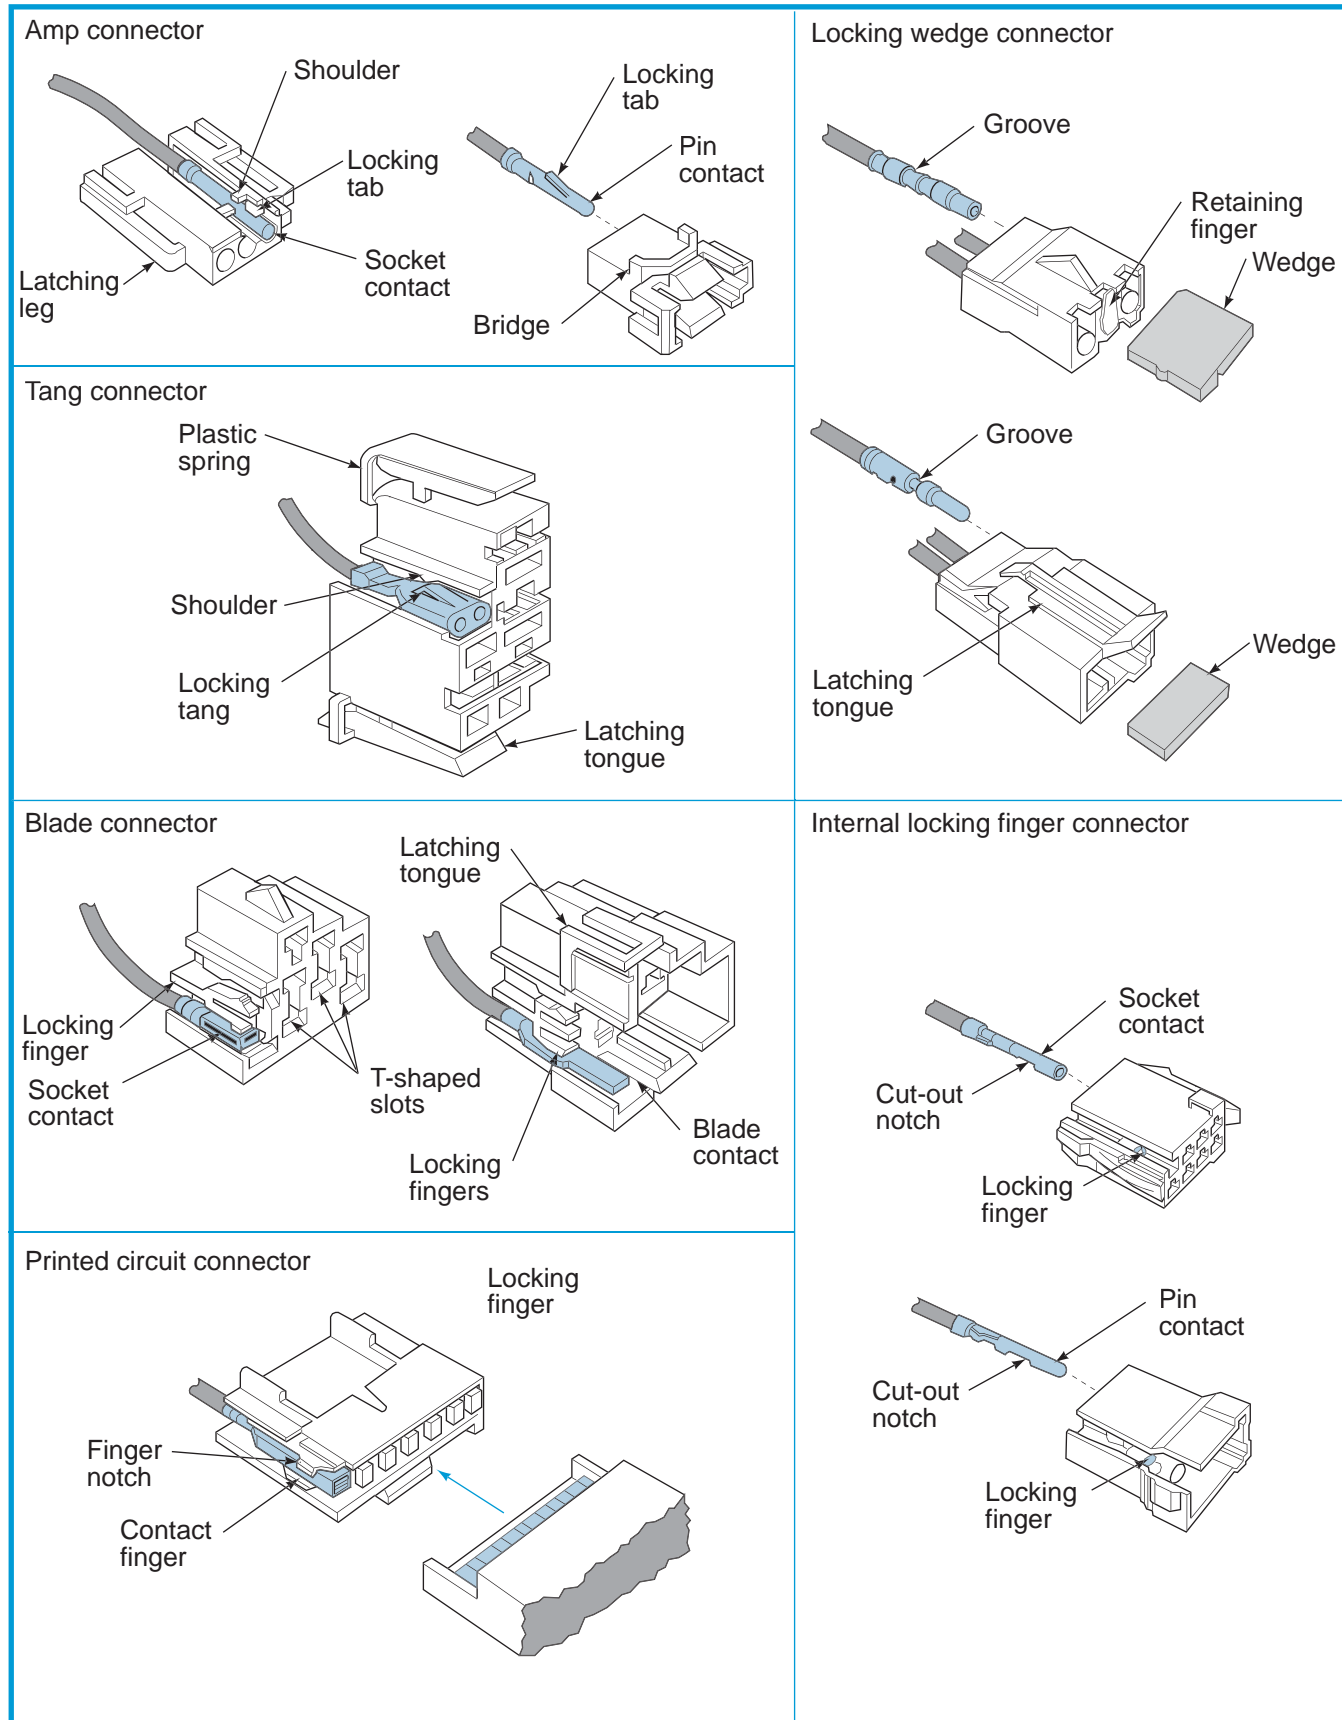

Figure 4-10 Multiple-wire hard shell connectors.
2. **Multiple-wire hard-shell connector:** These connectors usually have a hard plastic shell that holds the connecting terminals of separate wires (Figure 4-10). The wire terminals can be removed from the shell to be repaired.